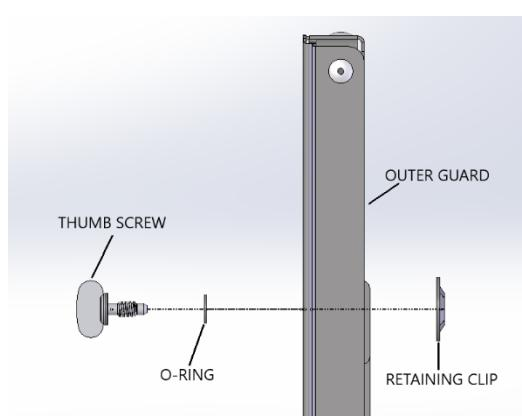

Figure 3: Exploded View of how thumb screw hardware should be assembled
- c. Insert thumb screws into the Outer Guard and secure in place using retaining clips. (Figure 3)